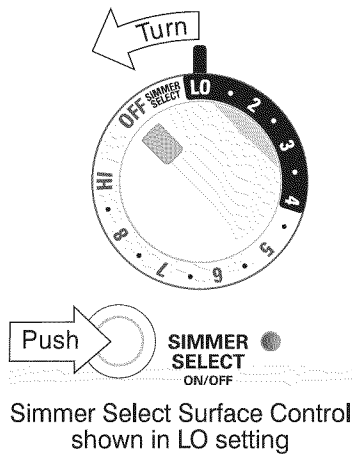

Fig. 2
2. Push in the Simmer button located below the left front control knob. The Simmer Select indicator light will glow and remain ON while simmering (See Fig. 2).